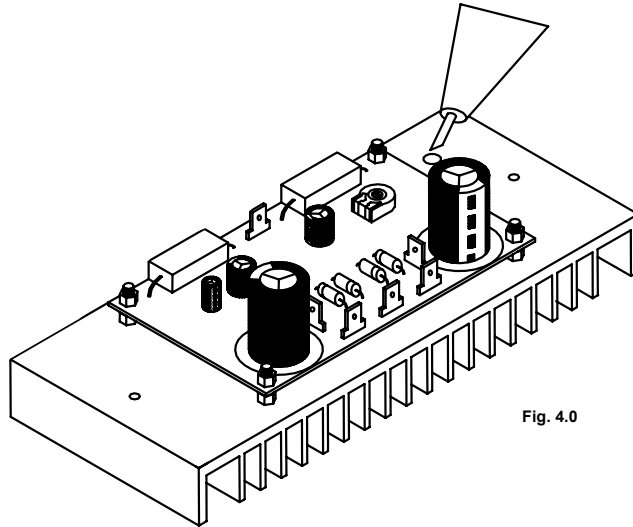

Fig. 4.0
- Apply a drop of heat conductive compound in the heat sink hole (fig. 4.0).